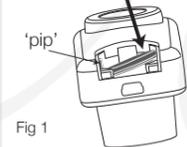

Fig 1
2. Insert battery (CR2032) under the 'pip' on the left hand side of the battery compartment. See Fig 1.